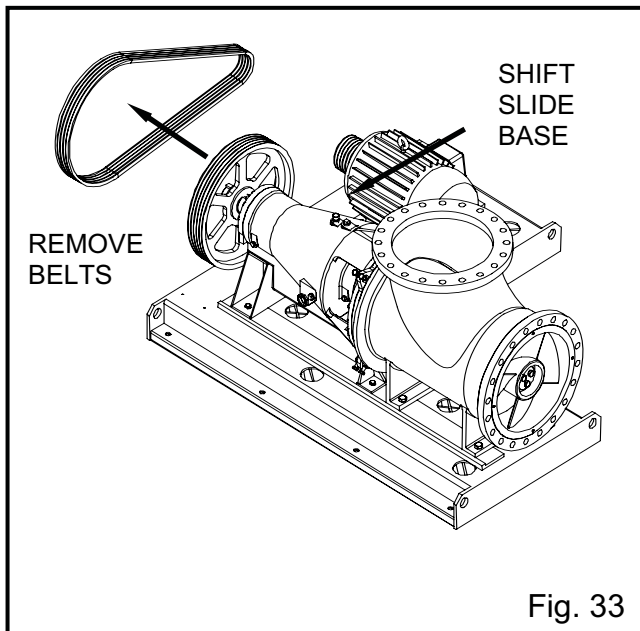

Fig. 33
10. Relieve the belt tension by adjusting the slide base toward the pump then remove the belts, see Fig. 33.